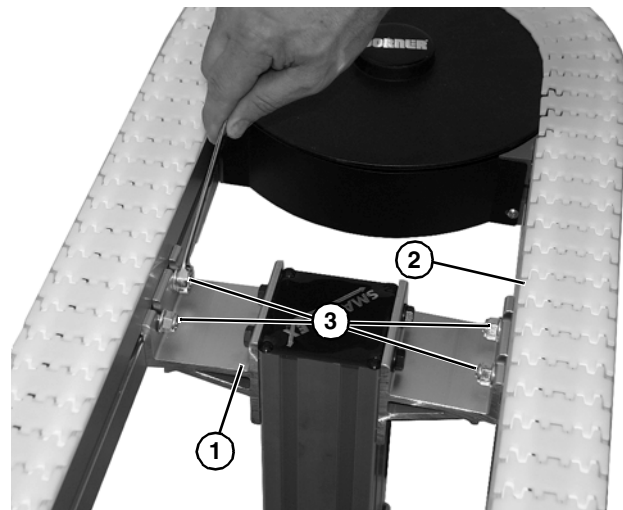

Figure 6
1. Install 180° curve mount (**Figure 6, item 1**) onto 180° curve (**Figure 6, item 2**) with four socket head screws (**Figure 6, item 3**) and nuts.
*Be certain that slots on end of bolts (**Figure 6, item 3**) is close to vertical when finished tightening nut.*